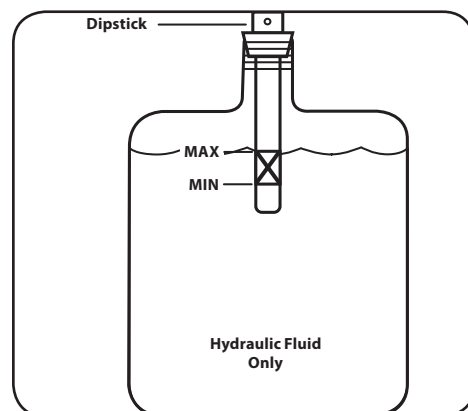

Figure 5-4
13. If necessary, refill the reservoir within range marked on the dipstick. See Figure 5-4.